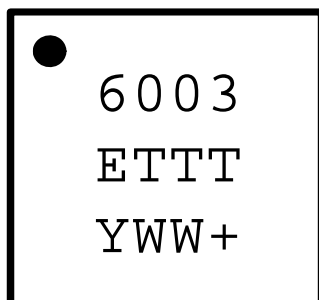

Figure 7. QFN 11 Top Marking
- Updated Figure 7, "QFN 11 Top Marking," on page 21.